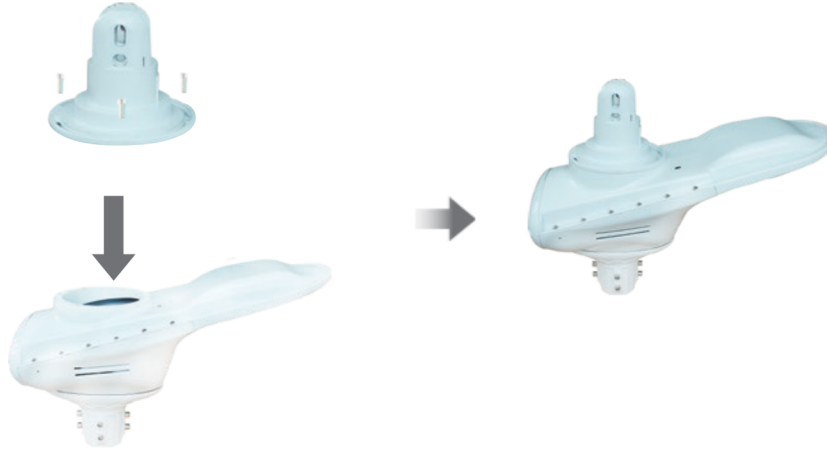

Figure 3
- ② **Rotating platform:** Use 6pcs M6x12 screws to fix the 360° rotating platform, according to the orientation of the area to be lit. (See Figure 3)